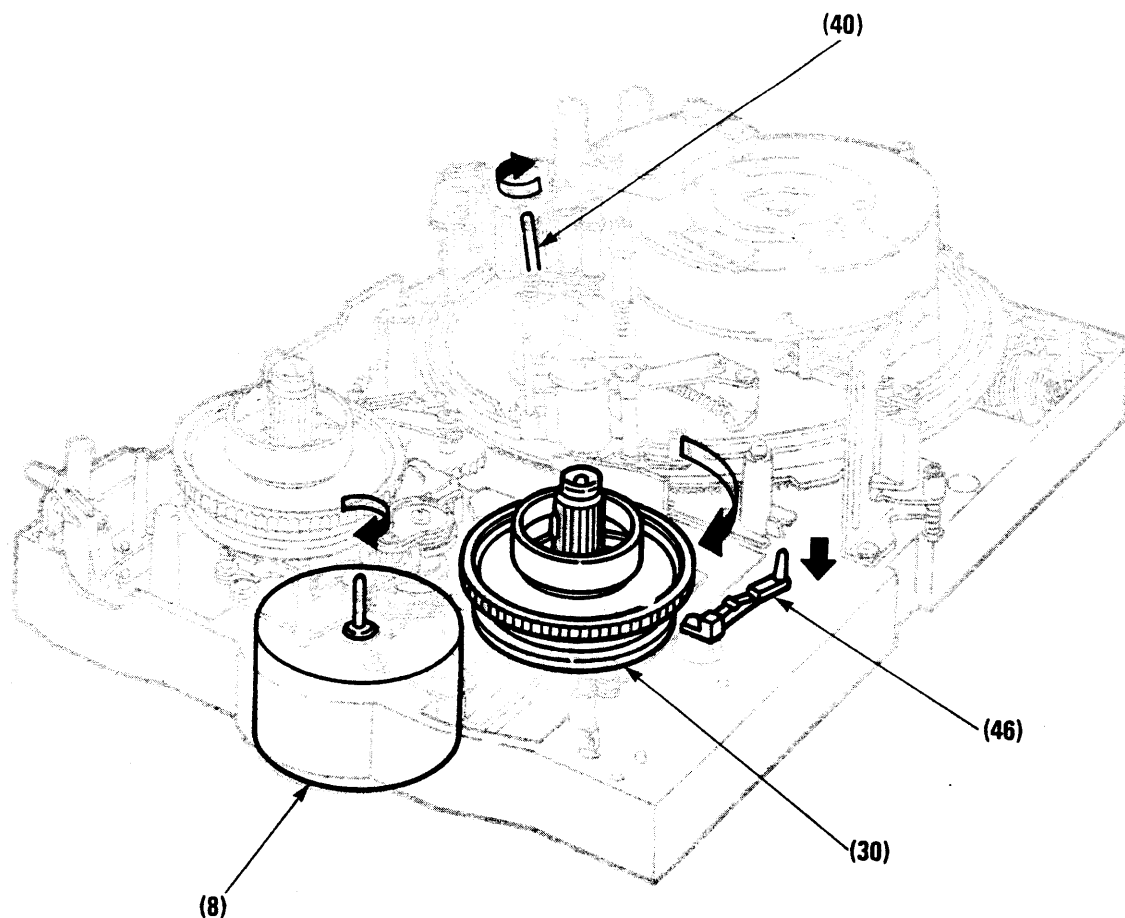

Fig. 3-3-23 REC mode
8. REC MODE (See Fig. 3-3-23.)